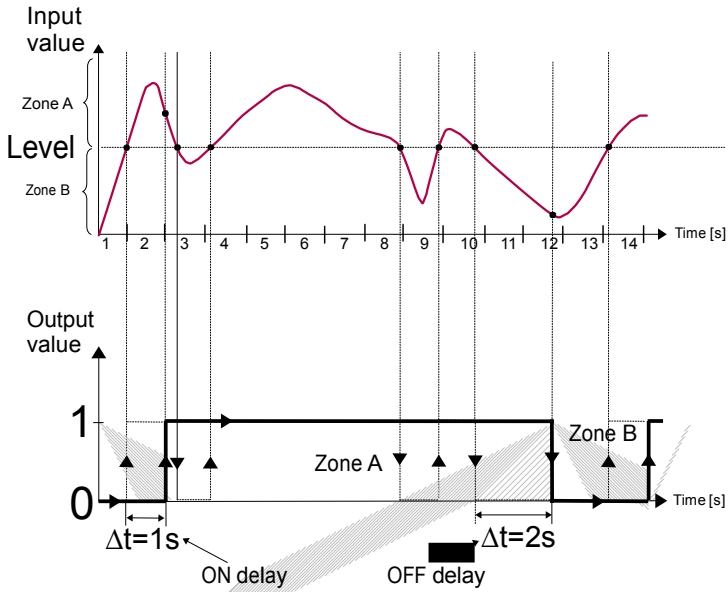

Fig. 7.84. Principle of relay output operation for sample timing settings:
- ON delay - this parameter allows the setting of the time that must pass from the time of exceeds Level value until the output switch from low to high state (see Fig. 7.84),
- OFF delay - this parameter allows the user to set the time that must pass from the time of exceeds Level value until the output switch from high to low state (see Fig. 7.84),